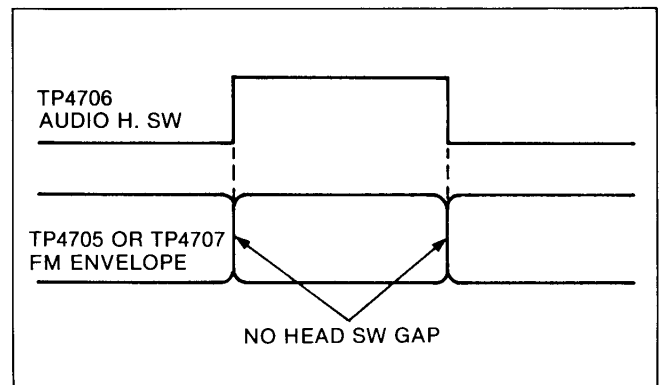

Figure E49
4. Adjust VR4707 so that the head switching gap is not occurred as shown in Figure E49.